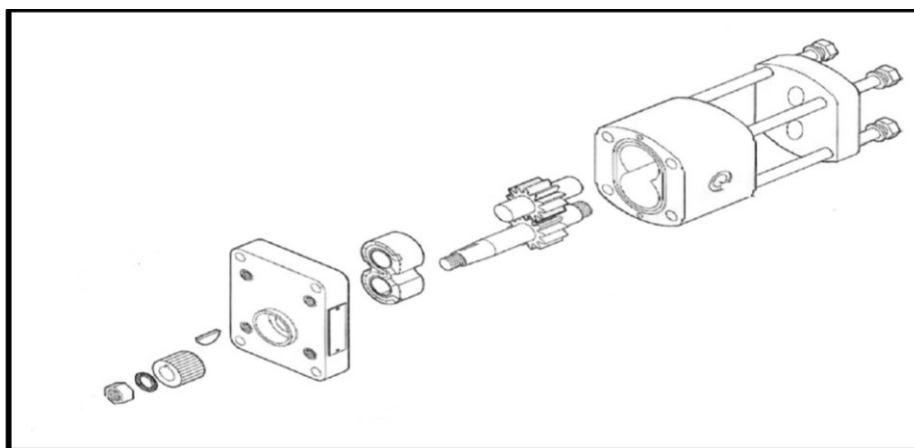

FIGURE 4.11
- (1)
- 4.11 Identify the exploded pump type shown in FIGURE 4.11 below